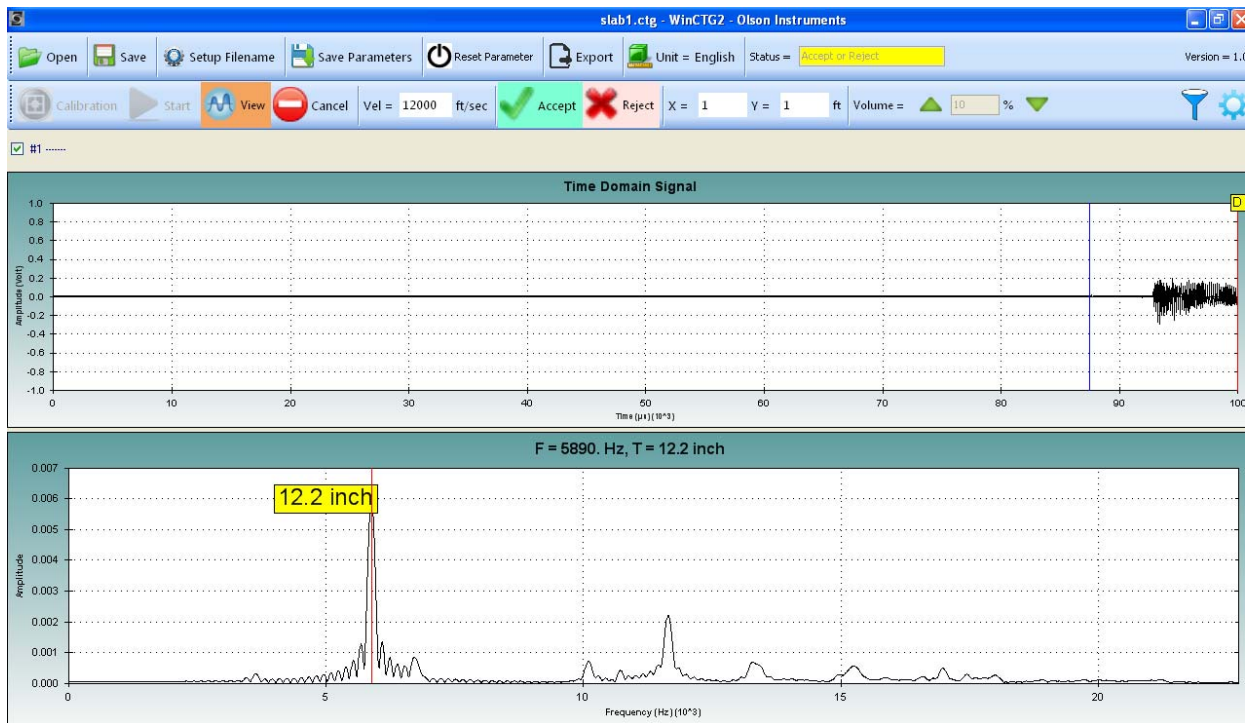
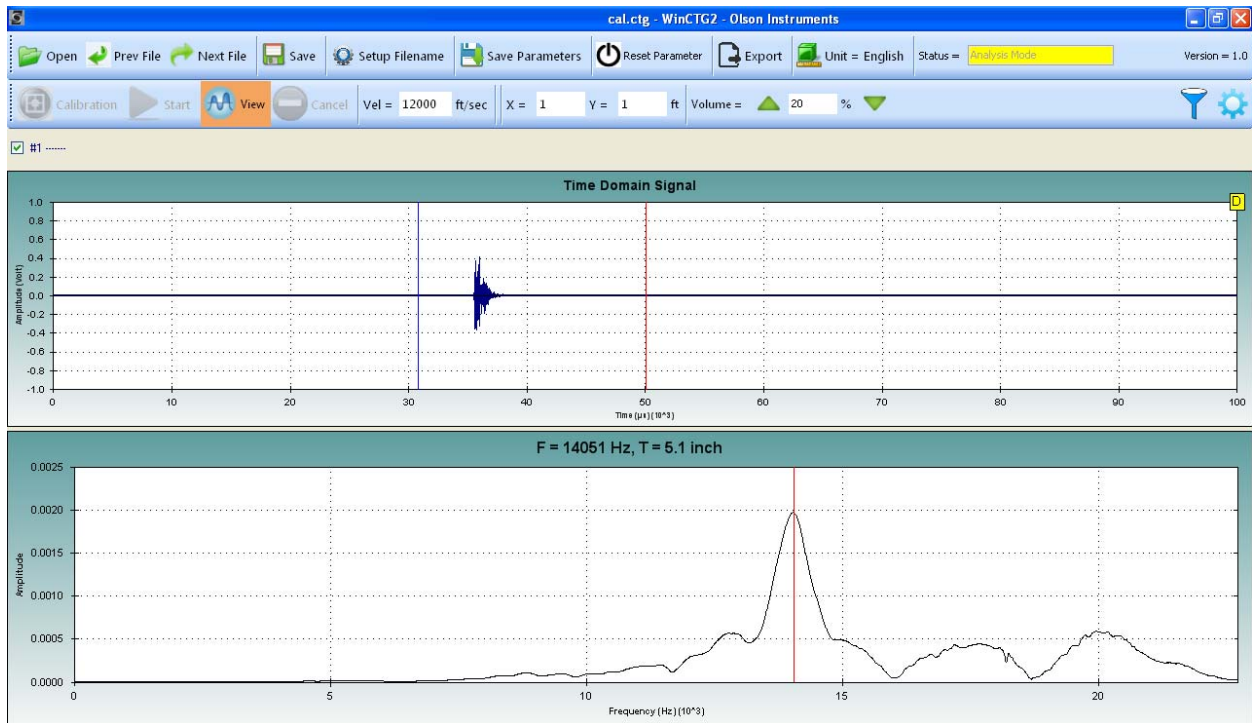

Figure 6 – Data Displayed with Thickness Reported above the Frequency Spectrum Plot
Figure 7A – Example of Good Data and a Single Prominent Peak in the Frequency Spectrum
6. With the IE head powered up and the green light on the top of the handle illuminated, press the trigger button on the underside of the handle. The unit will fire the solenoid on the CTG-2 head and create an impact. The displacement transducer sensor on the CTG-2 head will record the data and the software will display the data on the screen as shown in Figure 6 below. The program is now waiting for you to either accept or reject the data as reported in the “Status” field which is currently in “Accept or Reject” mode.
- Good data can be identified by a waveform signal in the Time Domain (top plot) that ranges from 0.1 volt to 0.8 volt AND the presence of a prominent peak in the Frequency Spectrum (bottom plot). (In Figure 6 above, the data was collected on a 6" x 12" cylinder so there are additional resonant peaks displayed in the data.) The following Figures 7A through 7D, demonstrate both acceptable and unacceptable data. It is recommended to verify repeatability of results by taking at least two tests at the same location.